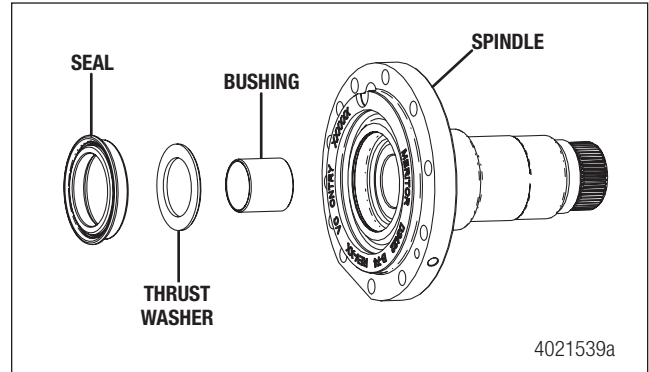

Figure 6.14
5. Remove the axle shaft seal inside the spindle. Figure 6.14